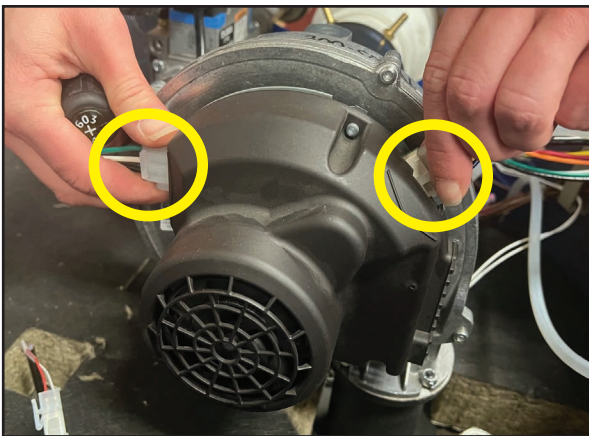
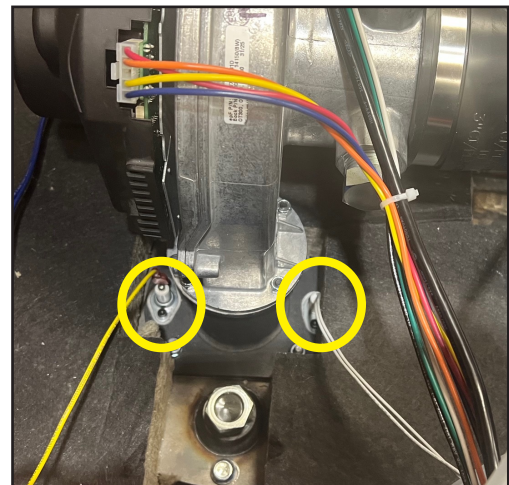

Fig. 30
Fig. 31
5. Disconnect the wiring harnesses on the blower (Fig. 30) and connectors on the flame sensor and hot surface igniter (Fig. 31).